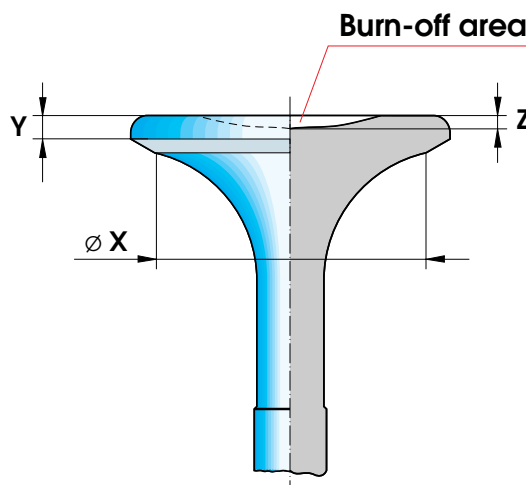

Fig 12-5
**2** Control the burning-off on the exhaust valve disc according to Fig 12-5. The measure “Y” should be more than 7.8 mm (nominal 8.8 mm) and measure “Z” should be less than 1 mm. If the measures exceed these limits the valve must be replaced.
- 1 Seat face of the inlet valve:** The seat angle of the inlet valve is 20° with a tolerance of 0°- +0.10°. Minimum allowable inner diameter "X" of the seat face after grinding is 92 mm, see Fig 12-5; after that, the valve must be replaced by a new one.
- 2 Seat face of the exhaust valve:** The seat angle of the exhaust valve is 40° with a tolerance of 0.10°- +0.20° to achieve contact to the seat ring at the periphery of the valve. Minimum allowable inner diameter "X" of the seat face after grinding is 82 mm, see Fig 12-5; after that, the valve must be replaced by a new one.